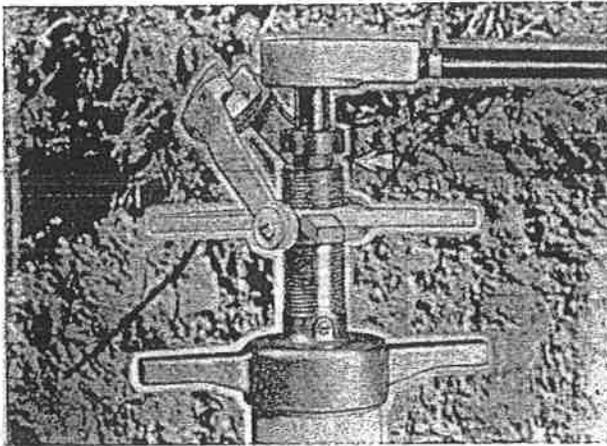

FIGURE 9
5. Continue tapping operation until tapping line on boring bar is flush with the top of the feed sleeve part of the cap. FIGURE 9. When tapping asbestos-cement pipe, it may be advisable to tap about 1/8" beyond the tapping line to provide more engagement of corporation stop threads when using one piece Cem-Res® tools.
6. Continue tapping until tapping line on boring bar is flush with the top of the feed sleeve part of the cap See FIGURE 9. When tapping asbestos-cement with one piece Cem-Res® combined drills and taps, it is advisable to exceed the tapping line enough to allow corporation stops to be inserted with only one to three threads exposed. The exact amount may be determined by making a "shop-tap" ahead of time. Use 50 to 80 foot pounds of torque to tighten stop into main after removal of machine.